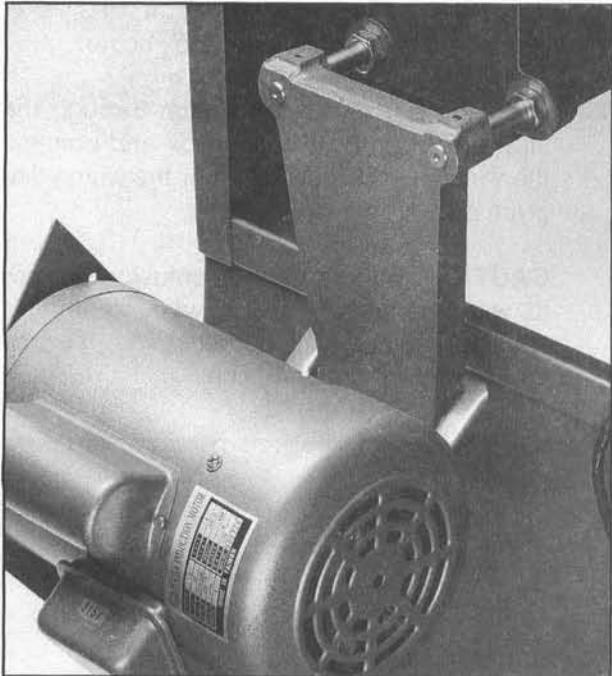

Figure 13.
5. Turn the arbor tilting handwheel until the arbor is set to 0°. Slide the motor assembly onto the linking bars through the holes in the motor bracket. Line up the setscrews with the grooves on the linking bars and tighten. **Figure 13.**